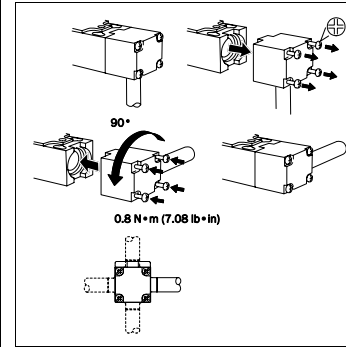

Fig. 3: Change actuator entry direction
- Tighten screws to 0.8 Nm (Fig. 3).